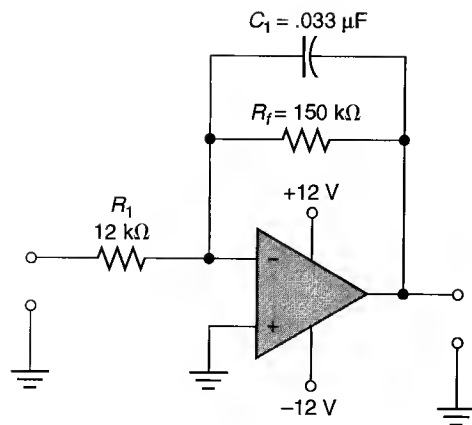

FIGURE 16.40
- Determine the cutoff frequency of the circuit shown in Figure 16.40.
10. Determine the frequency at which the circuit shown in Figure 16.40 will start to lose its linear output characteristics.